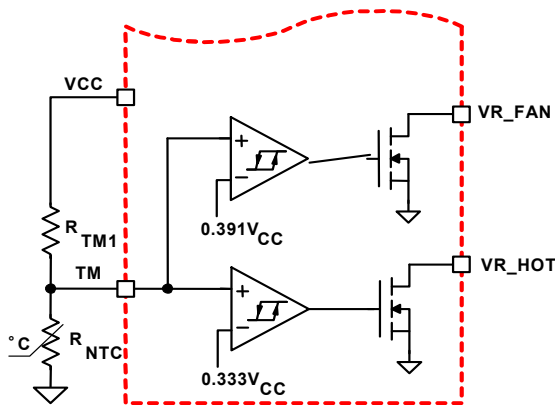
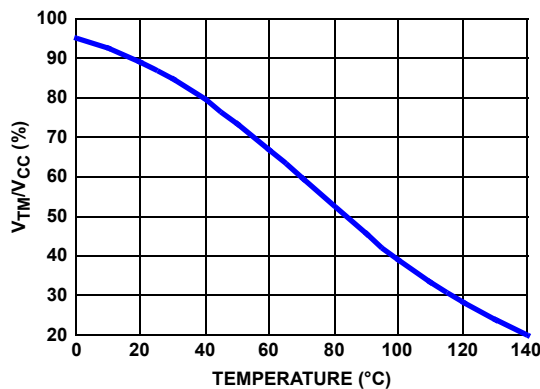

FIGURE 15. BLOCK DIAGRAM OF THERMAL MONITORING FUNCTION
FIGURE 16. THE RATIO OF TM VOLTAGE TO NTC TEMPERATURE WITH RECOMMENDED PARTS
The diagram of thermal monitoring function block is shown in Figure 15 on page 21. One NTC resistor should be placed close to the power stage of the voltage regulator to sense the operational temperature, and one pull-up resistor is needed to form the voltage divider for the TM pin. As the temperature of the power stage increases, the resistance of the NTC will reduce, resulting in the reduced voltage at the TM pin. Figure 16 on page 21 shows the TM voltage over the temperature for a typical design with a recommended 6.8kΩ NTC (P/N: NTHS0805N02N6801 from Vishay) and 1kΩ resistor RTM1. We recommend using those resistors for accurate temperature compensation.
Based on VCC voltage, the ISL6334D converts the TM pin voltage to a 6-bit TM digital signal for temperature compensation. With the non-linear A/D converter of ISL6334D, the TM digital signal is linearly proportional to the NTC temperature. For accurate temperature compensation, the ratio of the TM voltage to the NTC temperature of the practical design should be similar to that in Figure 16 on page 21.
1. Properly choose the voltage divider for the TM pin to match the TM voltage vs temperature curve with the recommended curve in Figure 16.